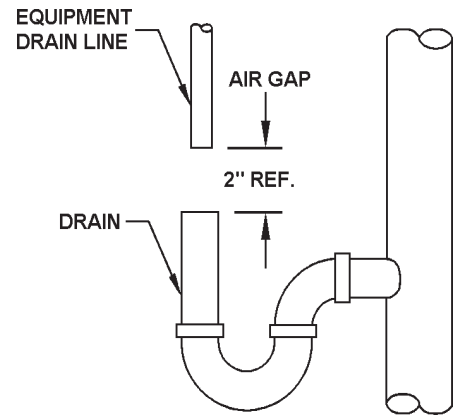

Figure 4
Position DRAIN LINE over drain and secure firmly. To prevent back-siphoning of sewer water, provide an air gap of at least two (2) inches or two (2) pipe diameters between end of drain hose and drain (Figure 4). Do not raise DRAIN LINE more than ten (10) ft. above floor.